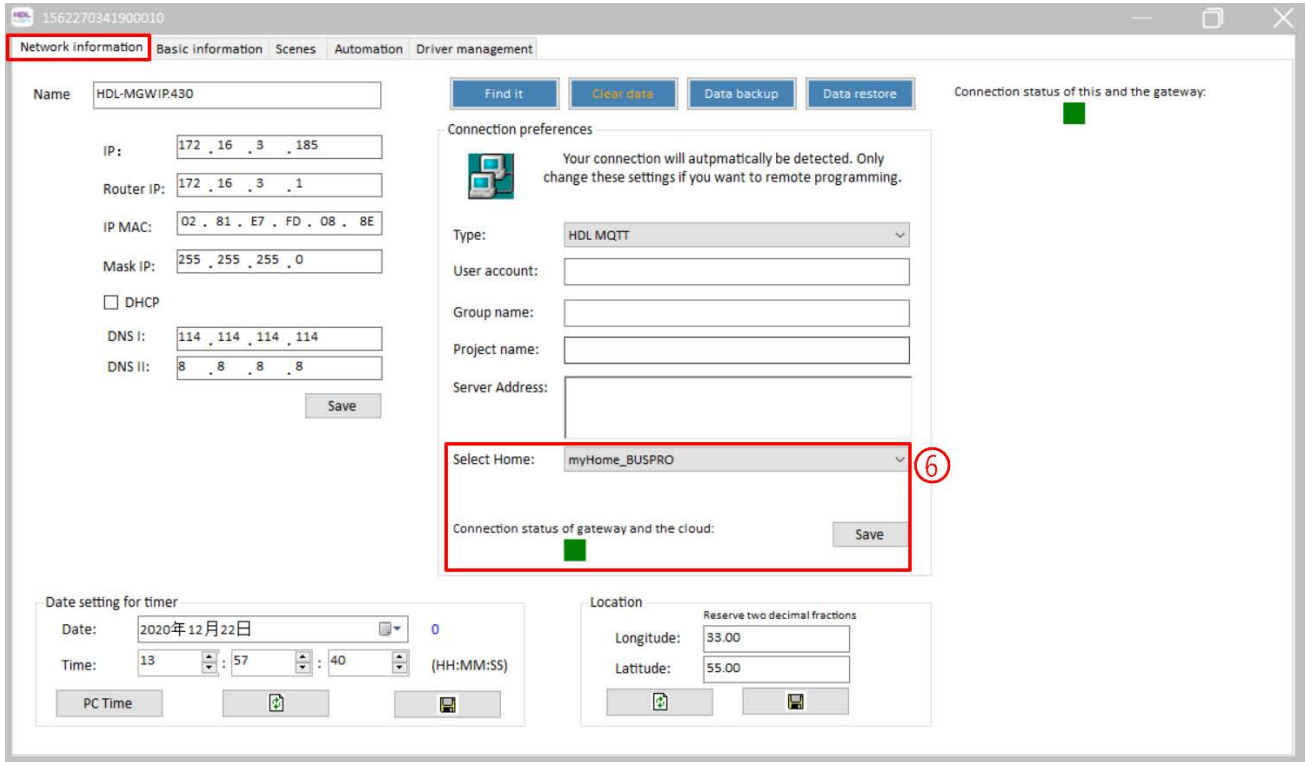

Figure 2-5 Remote Access Settings
- ⑥ As shown in Figure 2-5, click the tab “Network information” to open the configuration page → Select Home, e.g., “My Home” → Click “Save” → Regarding the connection status of gateway and the cloud, green means that the information for the new area has been successfully uploaded to the cloud. The user can remotely control this area via App.